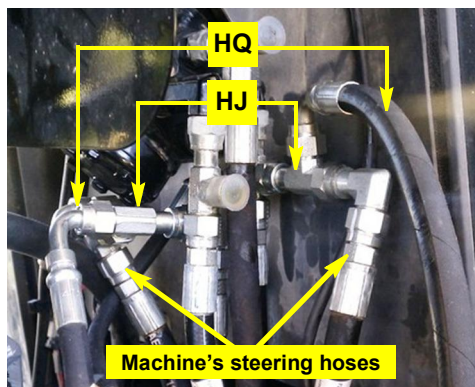

Figure 7: Steering run-tees installed and steering hoses connected/reconnected
- Install run-tees **HJ** at the run-tees in the orbital's steering ports from which you disconnected the machine's steering hoses at step 5 (Figure 7).
- Connect the machine's steering hoses to the run-tees **HJ** (to the stem of the front run-tee; to the open 'T' end of rear run-tee - Figure 7).
- Connect the 90° elbow ends of steering hoses **HQ** to the run-tees (Figure 7).